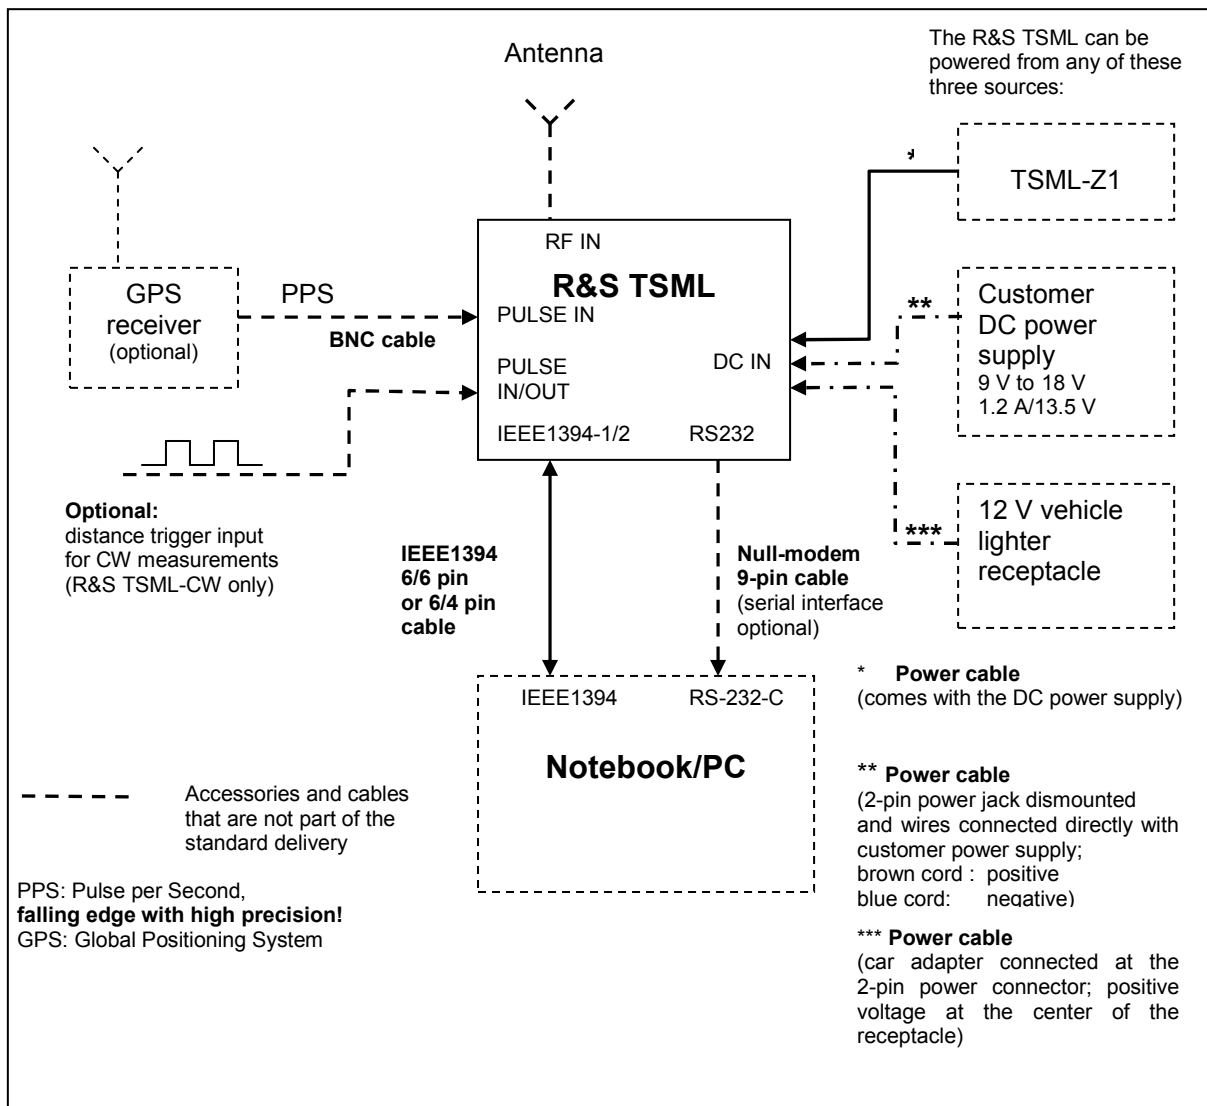

Fig. 2 Wiring diagram
- See Fig. 2 for the complete wiring diagram.